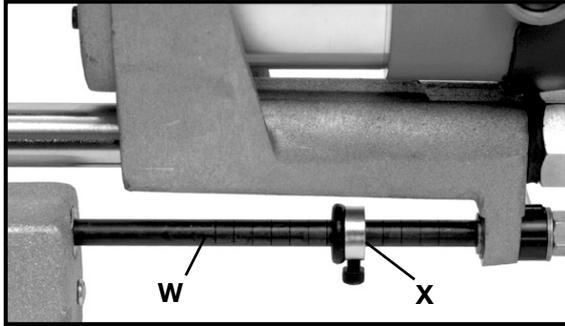

Fig. 7
Measure the lock box at its deepest part, including the thickness of the lock face, and add  $\frac{1}{4}$ " (6.4 mm) to this dimension for clearance. The depth of cut is controlled by the feed rod (W) Fig. 7 which is marked in  $\frac{1}{4}$ " (6.4 mm) increments. Loosen the collar (X) and move it to the determined depth requirement and lock in place.